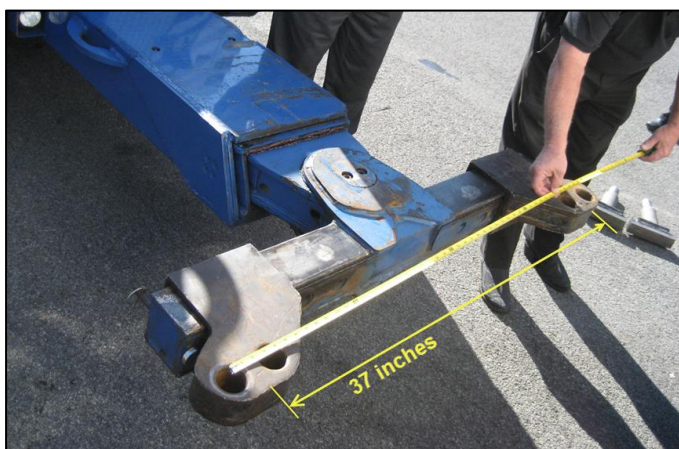

FIGURE 30
*Center to center measurement between tow eyes= 37 inches (Figure 30)*